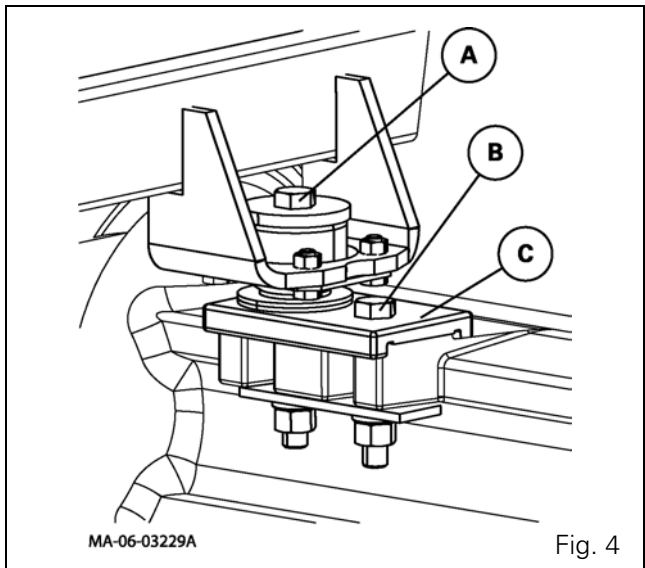
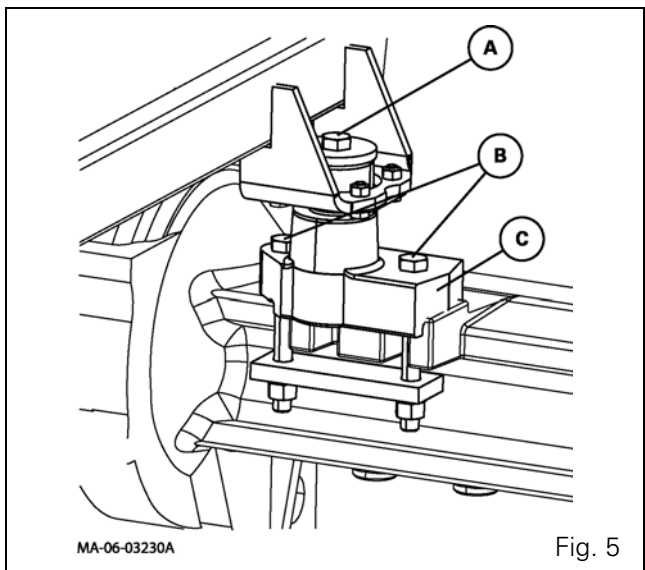

Fig. 4
Fig. 5
8. Remove cab attachment screw A (cab with transmission shaft tunnel Fig. 4, flat floor cab Fig. 5).
10. If the trumpet is replaced, remove shims C by taking out screws B (Fig. 4 and Fig. 5).
13. Loosen the attachment screws (19).
- brake disc (18)
- sun gear (22)
- locating pin (26)
16. Remove the brake plate (17).